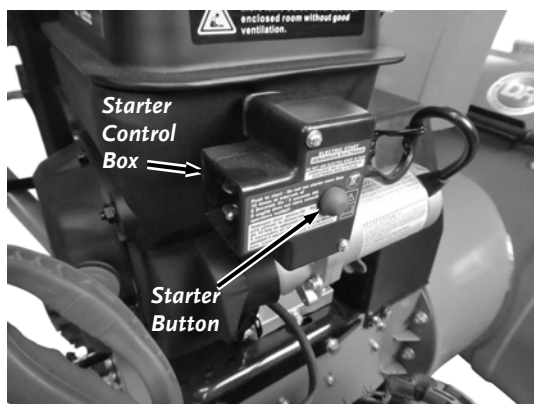

Figure 28
3. Connect the required Heavy-Duty extension cord into the Snow Blower Control Box (**Figure 28**) and plug the Extension cord into a 120V outlet.